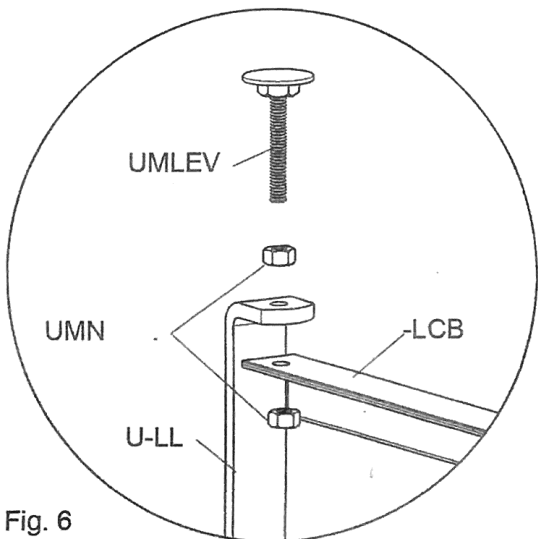

Fig. 6
14. Attach leg connector bar (LCB) using the adjustable leg levellers (UMLEV) and nuts (UMN). See Fig. 6.